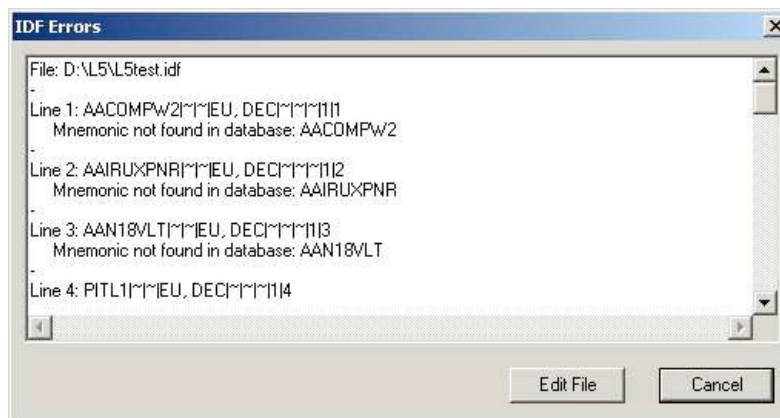

Figure 107: IDF Verify Error Screen
- IDF Verify will either verify the file with an “IDF file is correct” message or it will produce a listing of IDF syntax errors (Figure 107).